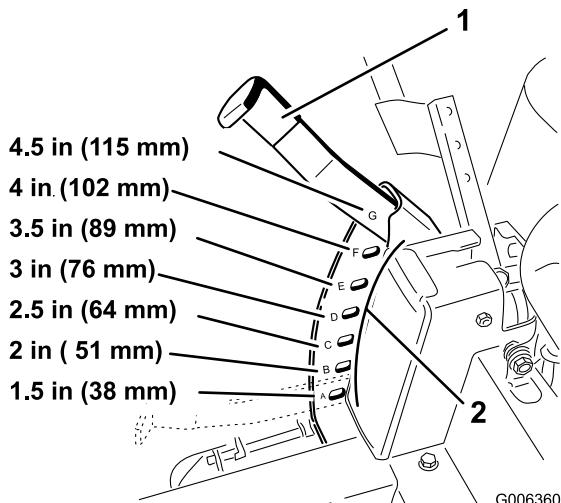

Figure 16
1. Raise the height-of-cut lever to the transport position, cutting height position **G** (also the 4-1/2 inch [115 mm]) (Figure 16).